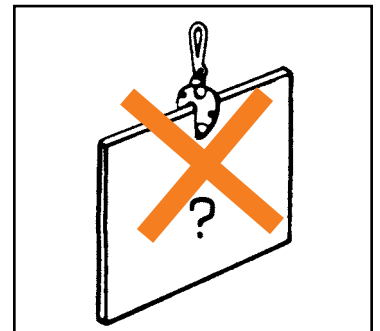

Figure 8
4. **DO** know the exact weight of the lifted member before the lift (Fig. 8). Never lift a weight greater than the Working Load Limit (WLL) of the clamp.